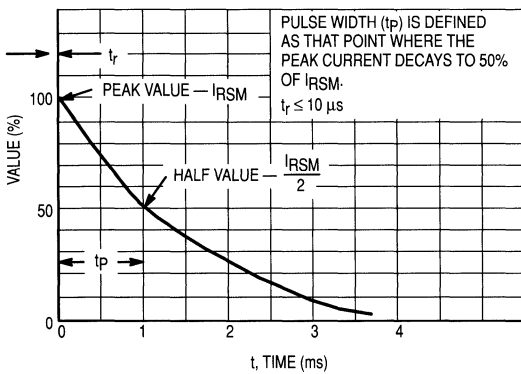
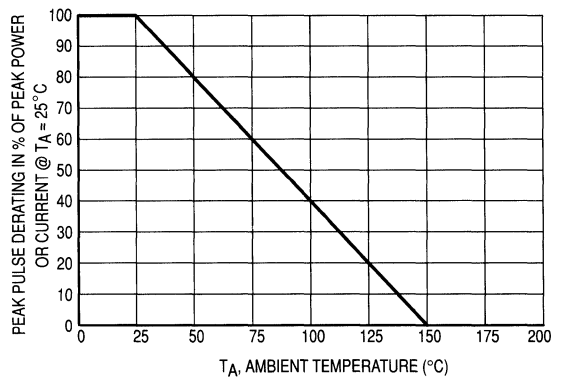

Figure 5. Pulse Waveform
Figure 6. Pulse Derating Curve
(1) Nonrepetitive current pulse per Figure 5 and derate above  $T_A = 25^\circ\text{C}$  per Figure 6.
(2) FR-5 = 1.0 x 0.75 x 0.62 in.
(3) Alumina = 0.4 x 0.3 x 0.024 in., 99.5% alumina
$^\dagger$  Surge current waveform per Figure 5 and derate per Figure 6.